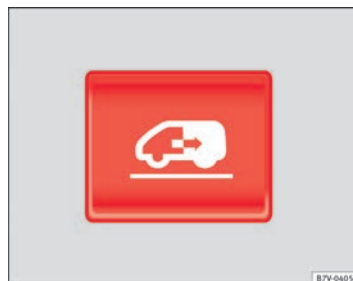

Fig. 50 On the dash panel, on the remote control key and on the interior lining of the sliding door: Button for opening and closing the electric sliding door
Opens the sliding door electrically.	<p>Press the ⇒ Fig. 50 button on the dash panel, on the remote control key and on the interior lining of the sliding door. The sliding door opens with the rollback anti-trap function as long as the button is not pressed again.</p> <p>Pull briefly on the interior or exterior handle the door. The sliding door opens automatically.</p>
Closing the sliding door electrically.	<p>Press the ⇒ Fig. 50 button on the dash panel, on the remote control key and on the interior lining of the sliding door. The sliding door closes with the rollback anti-trap function as long as the button is not pressed again. As it closes, a warning sound is given.</p> <p>Pull briefly on the interior or exterior handle the door. The sliding door closes with the roll-back function. As it closes, a warning sound is given.</p>
- Press and hold the (⏮) ⇒ Fig. 50 button. **The sliding door closes with full force.**